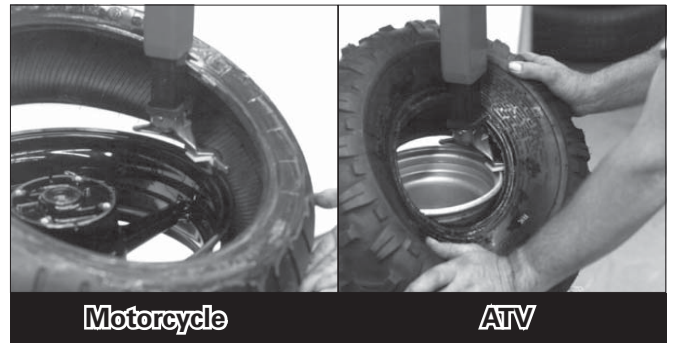

Figure 14 - Position Tire Against Mount/Demount Tool
4. Place tire over wheel and move swing arm into position. Position the tire so that the lower bead is above the rear extension of the mount/demount tool and below the front knob (Figure 14).